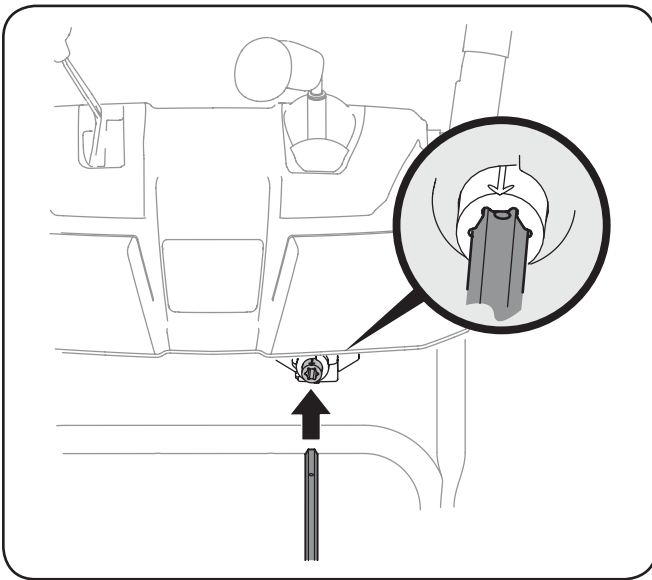

Figure 3-8
- Insert the chute control rod into the pinion gear below the joystick. Make sure to line up the hole in the rod with the arrow on the pinion gear. See Fig. 3-8.